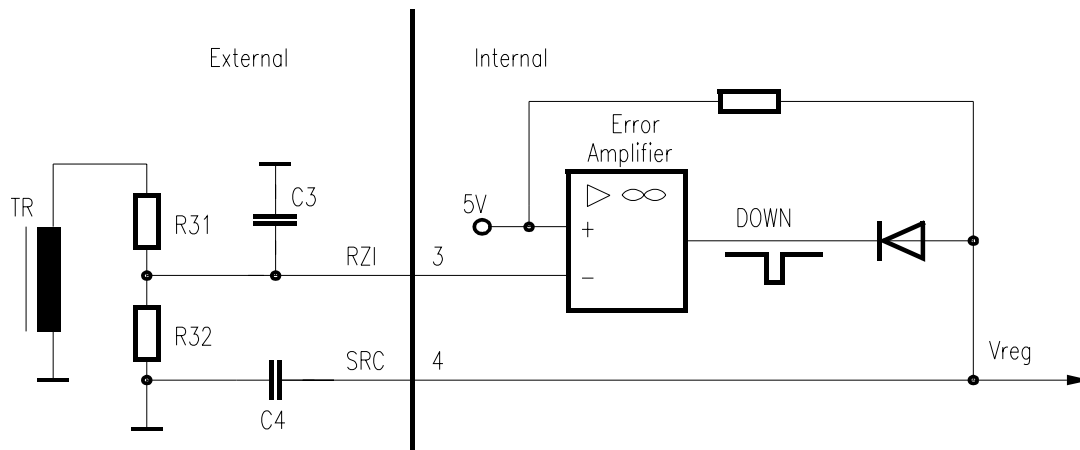
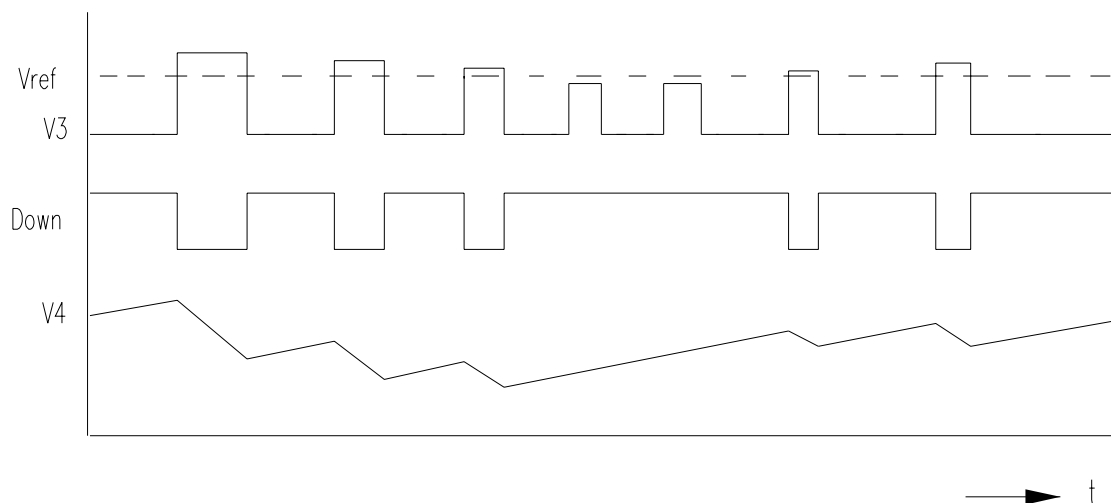

Figure 9 Error Amplifier
Figure 10 Regulation Pulse Diagram
Figure 9 shows the simplified Error Amplifier circuit. The positive input of the Error Amplifier (EA) is the reference voltage 5 V. The negative input is the pulsed output voltage from the auxiliary winding, divided by R_{31} and R_{32} . The capacitor C_3 is dimensioned only for delaying zero crossings and smoothing the first spike after switch-off. Smoothing of the regulation voltage is done with the soft start capacitor C_4 at Pin 4. During start up C_4 is charged with a current of approx. $2 \mu\text{A}$ (Soft Start). For primary regulation C_4 is charged and discharged with pulsed currents. **Figure 10** shows the voltage diagrams of the Error Amplifier circuit.